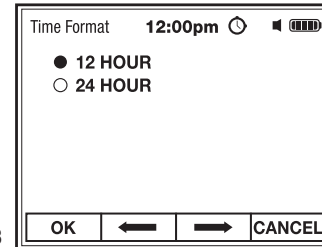

Fig. 28
2. Use the **F2** \Leftrightarrow and **F3** \Rightarrow soft keys to select a 12 hour or 24 hour clock (Fig. 28).